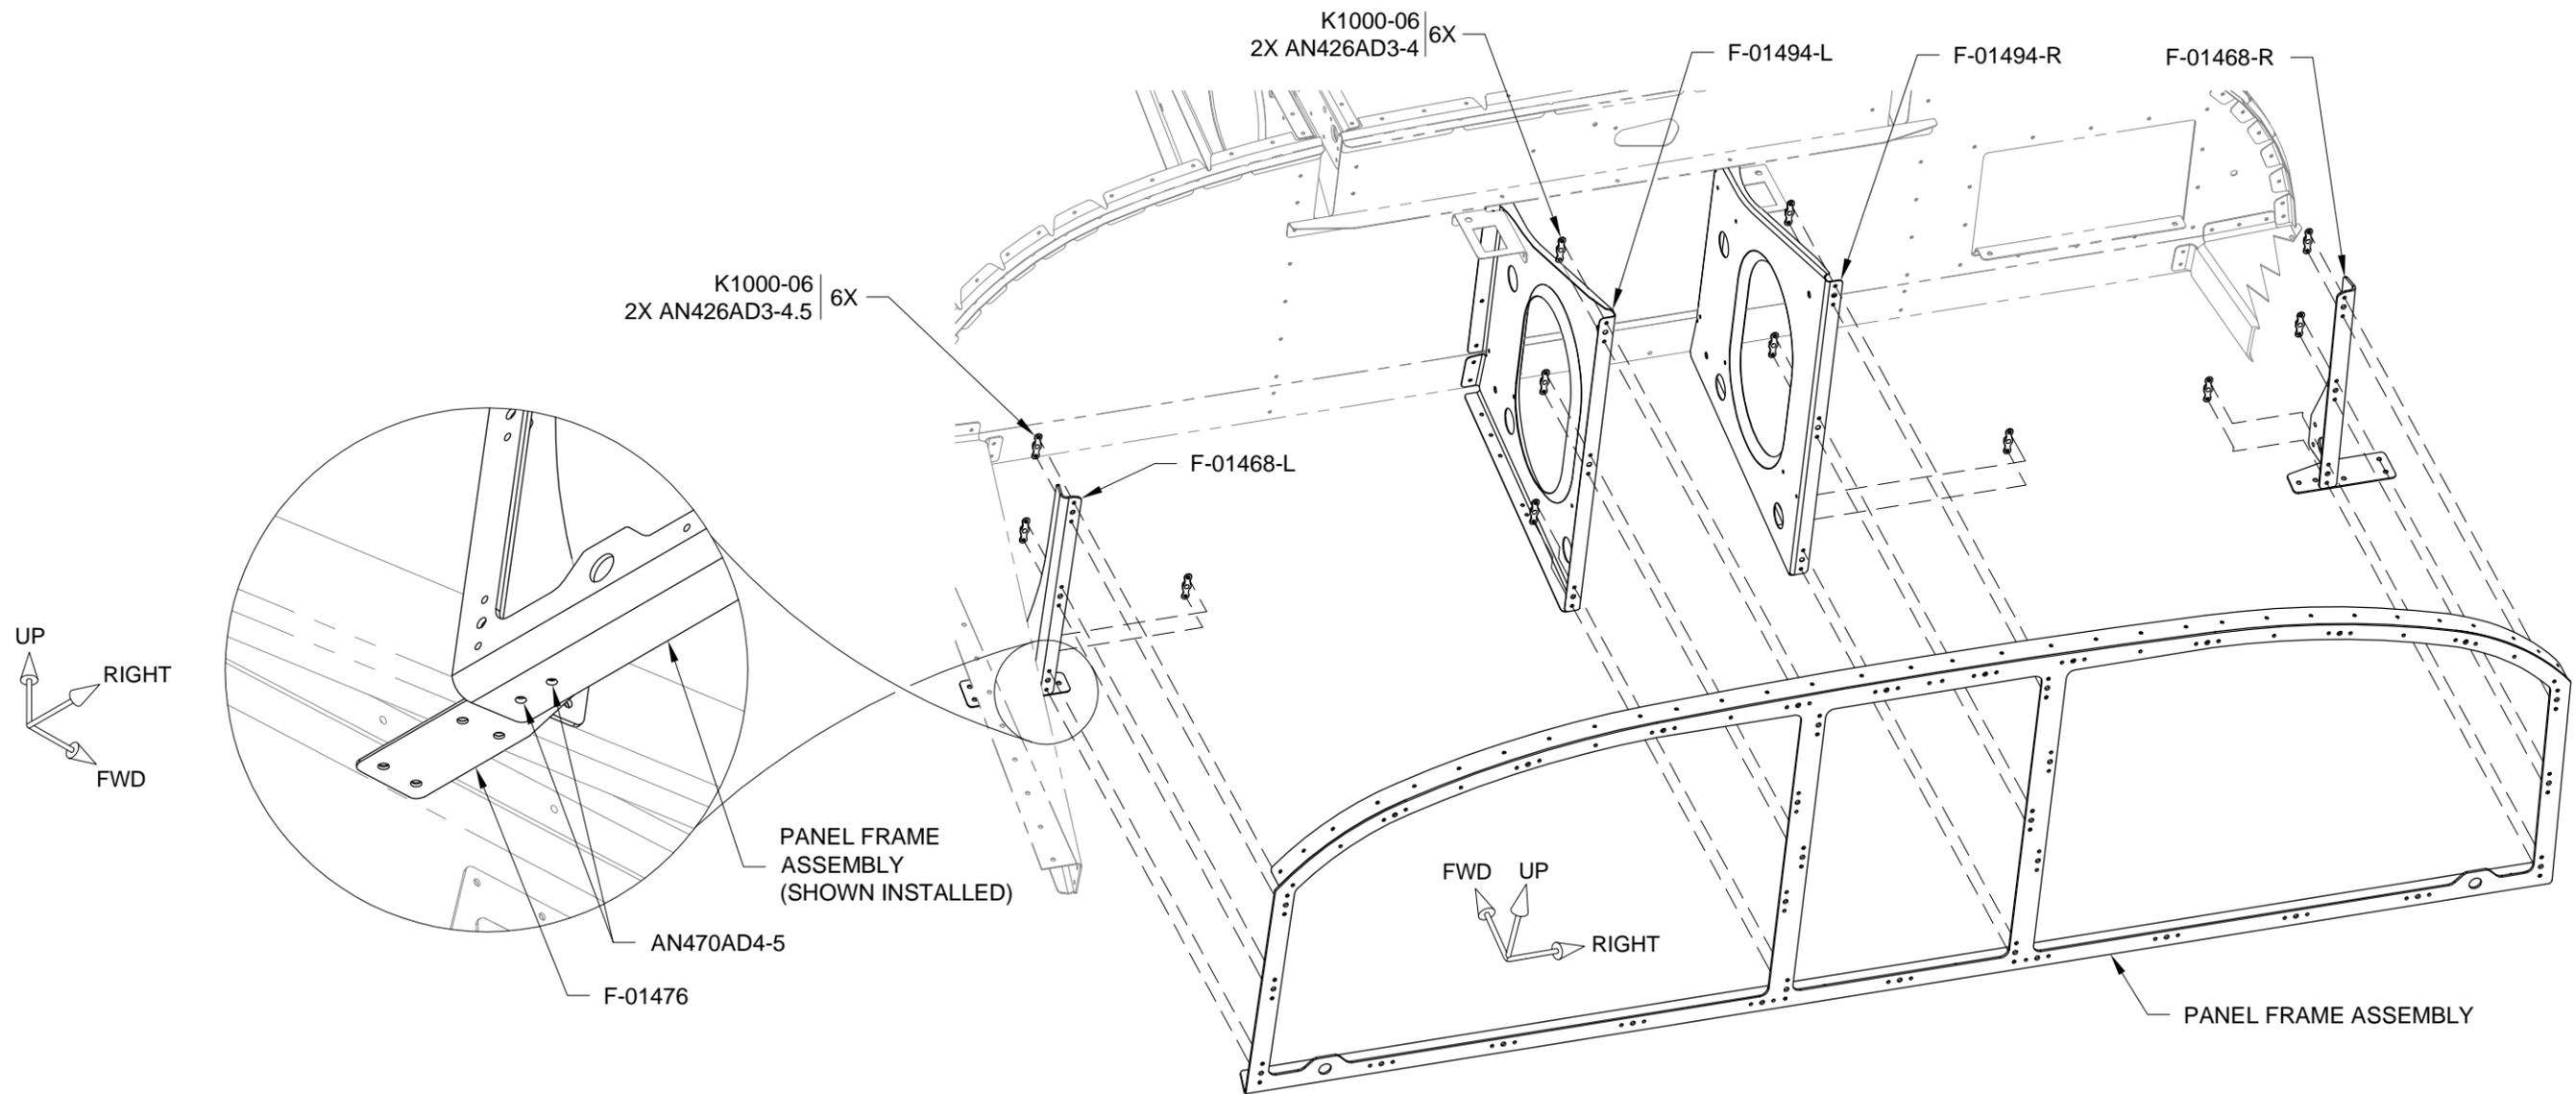

FIGURE 1: PANEL FRAME ASSEMBLY INSTALLATION
Step 1: Cleco then rivet the Panel Frame Assembly with the called out nutplates to the F-01468-L & -R Instrument Panel Attach Brackets and to the F-01494-L & -R Instrument Panel Stand-Offs as shown in Figure 1.
Step 2: Rivet the Panel Frame Assembly to the F-01476 Instrument Panel Attach Plate as shown in the Figure 1 detail view.